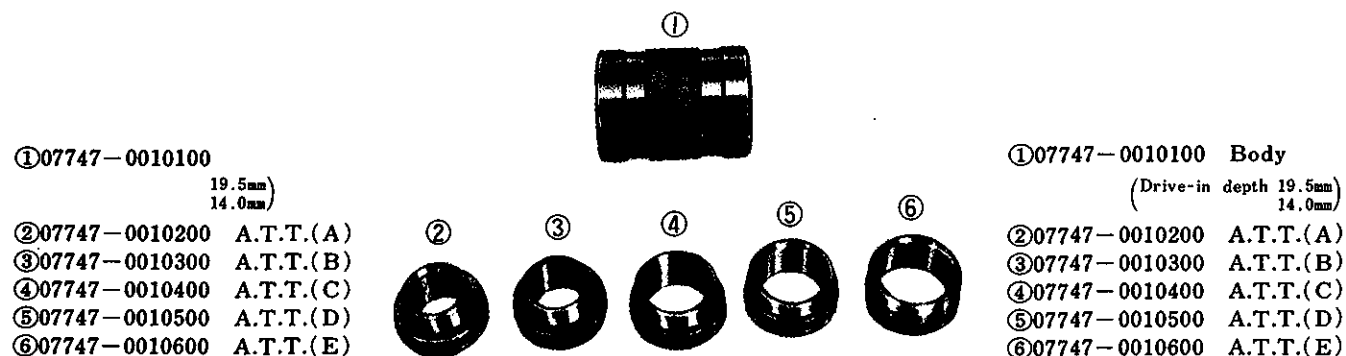
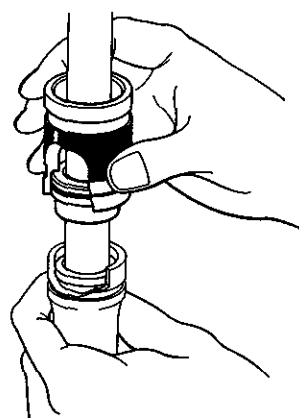

Fig.1
Fig.3
This tool is used when driving in the front fork oil seal. (Fig.1)
Fit A.T.T.(Fig.1-②~⑥) matching the front fork pipe diameter(inner tube) and the fork bottomcase diameter (outer tube) onto the tool proper (Fig.1-①) and drive in the oil seal while guiding with the fork pipe. (Fig.3)